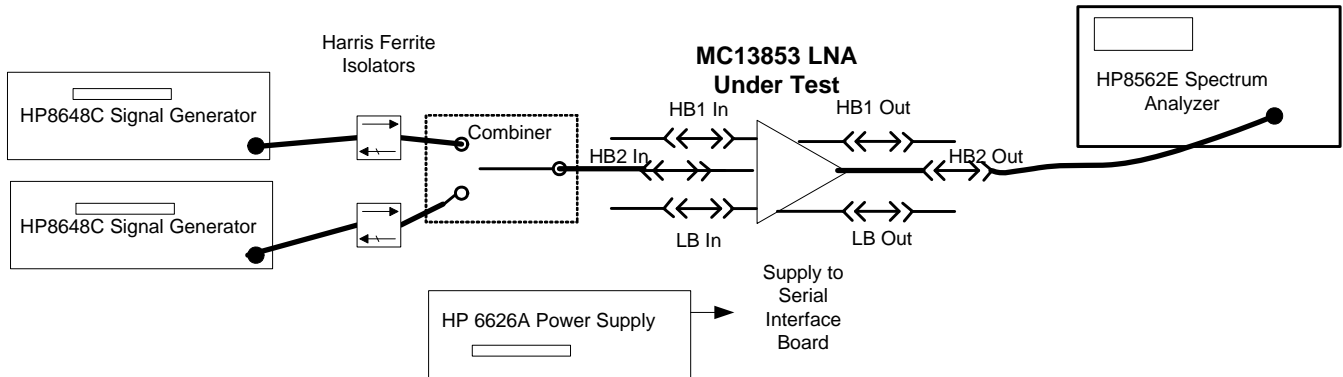
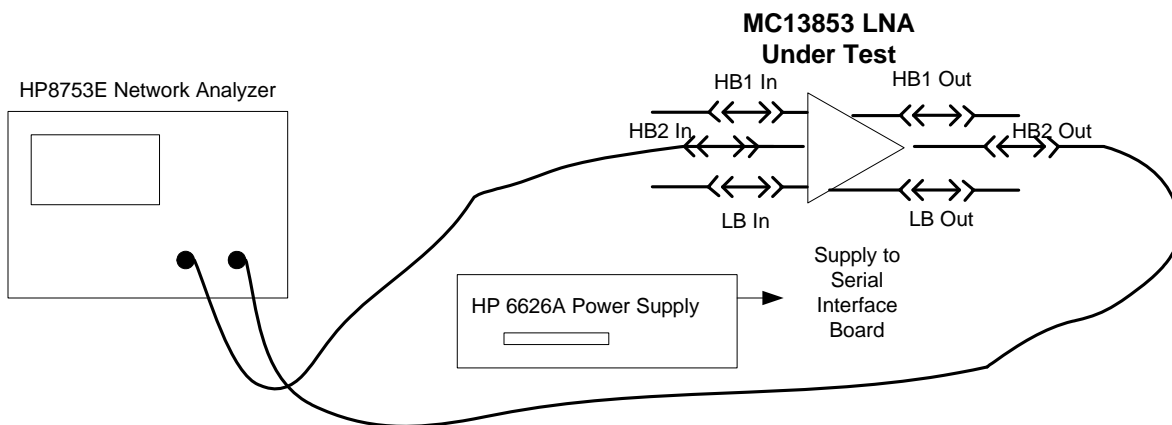
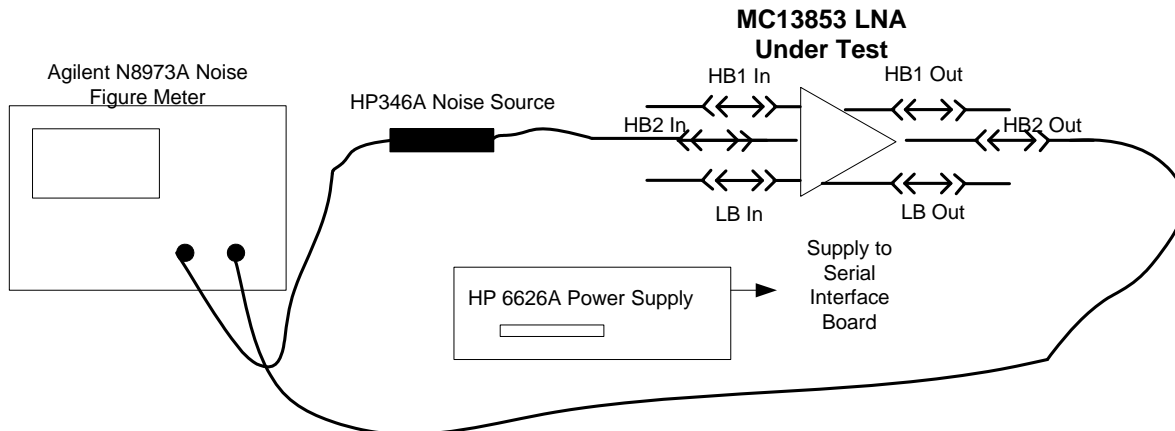

Figure 3-1. MC13853 Power Management Test Equipment Block Diagram
Figure 3-2. MC13853 S Parameter Test Equipment Block Diagram
Figure 3-3. MC13853 Noise Figure Test Equipment Block Diagram
5. The test equipment requirements and line-up are given in Chapter 3, “Basic Test Equipment Setup”, Figure 3-1.
To test and evaluate the performance of the MC13853 LNA on its EVB environment, a test plan and a test equipment bench set-up in the lab is necessary. A basic test plan can be made by following the MC13853 data sheet and obtaining the same measured parameters. However, the results are dependent on the test equipment configuration. In order to establish a basic test set-up, the details and equipment interconnections are given in Figure 3-1.
1. From the list of test equipment given in Section 3.2, “List of Test Equipment”, on page 3-3, assemble the line-up as given in Figure 3-1, Figure 3-2, and Figure 3-3.
6. If (5) fails, repeat steps (1) through (4) until measurements are correct.
7. If (5) passes, connect the MC13853 into the circuit.